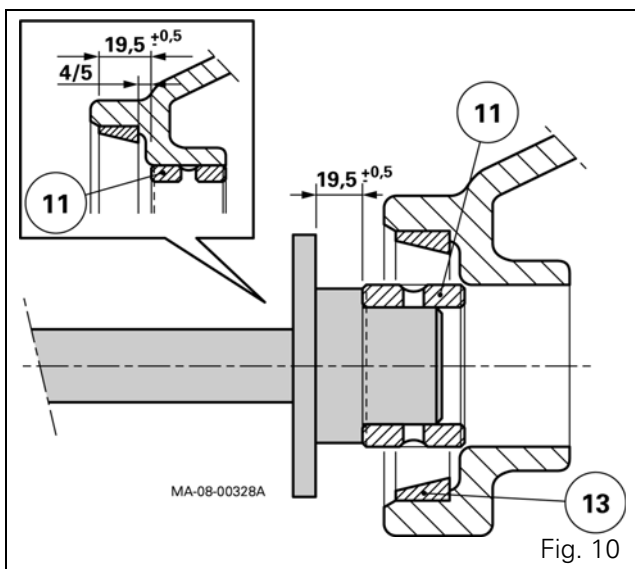

Fig. 10
48. Refit the gear (7) (if removed).
49. Position the circlip (6).
52. Fit the cup (13) (if removed).
53. Fit the ring (11) using a makeshift drift (see § G), so that the ring is positioned 4 to 5 mm set back from the cup mating face (13) (Fig. 10). Move the ring until one of its holes opens into the clutch supply channel in the housing.
54. Fit the seal (24) in the cap (22).